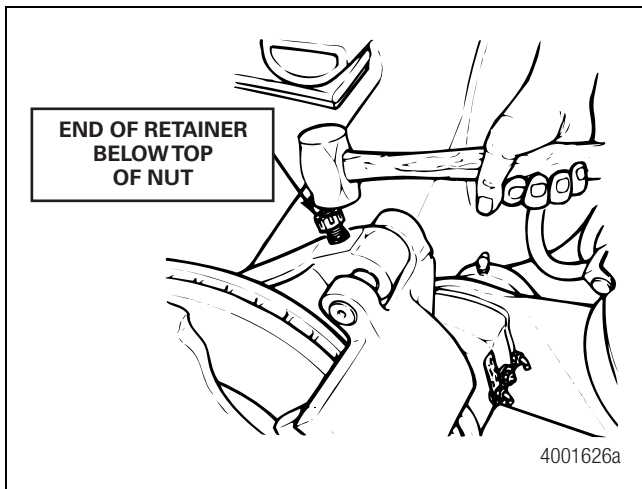

Figure 10.7
- A. Apply penetrating oil to help loosen the retainer. Turn the nut until the end of the retainer is below the top of the nut. Wear safe eye protection. Hit the nut with a brass or leather mallet to loosen the retainer. Figure 10.7.